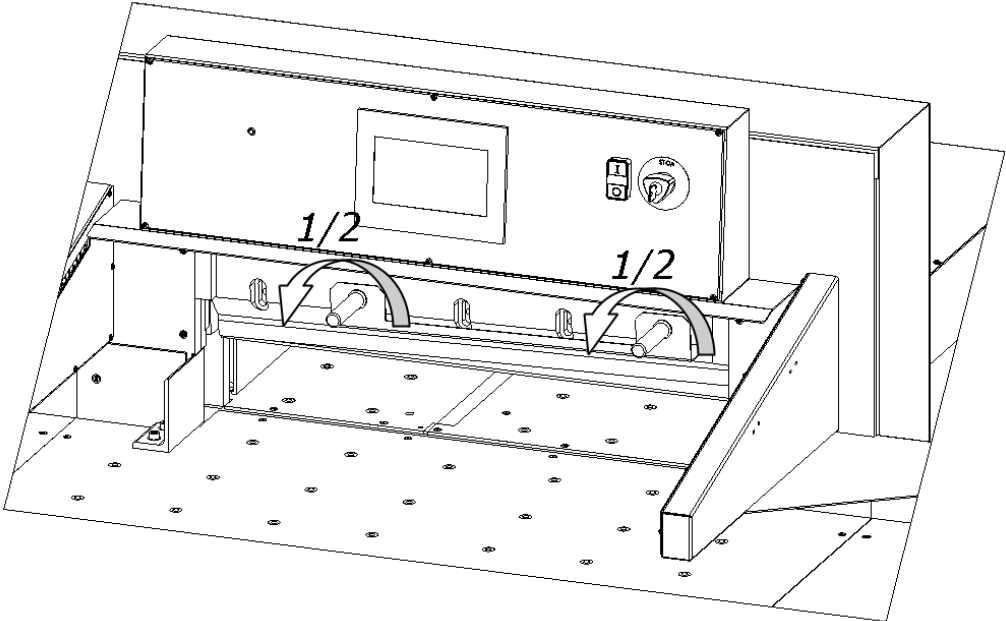
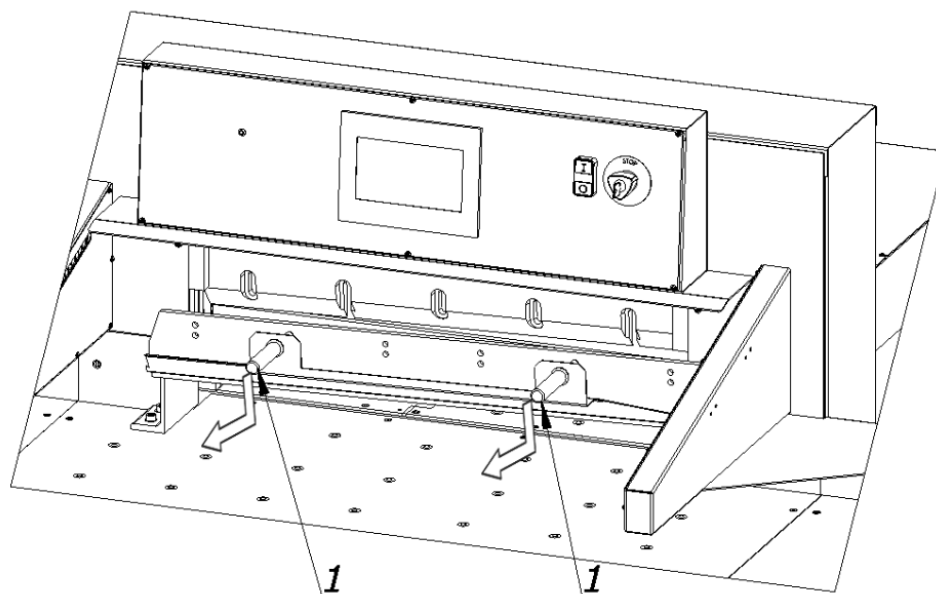
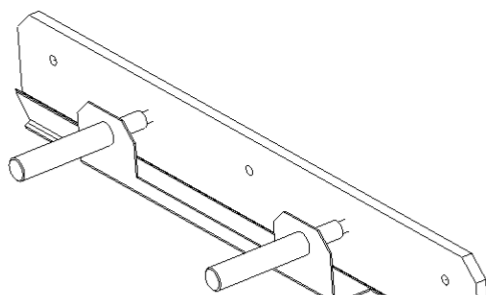

Figure 27
Figure 28
Figure. 29a Knife in the transport handle
8.1.1.13 holding the transport handles release the clamp by turning them 1/2 turn at a time to the left (fig 27) and carefully pull the knife down (fig 28). Take the removed knife into the special protective packaging (Fig. 29a - 29d.) With the blade inwards and fasten it with two screws. To unscrew the bolts fixing the blade knife, use the RWTg 8 wrench provided on the cutter.
- 8.1.2.2. Remove the knife from the packaging (Fig.29a - 29d)